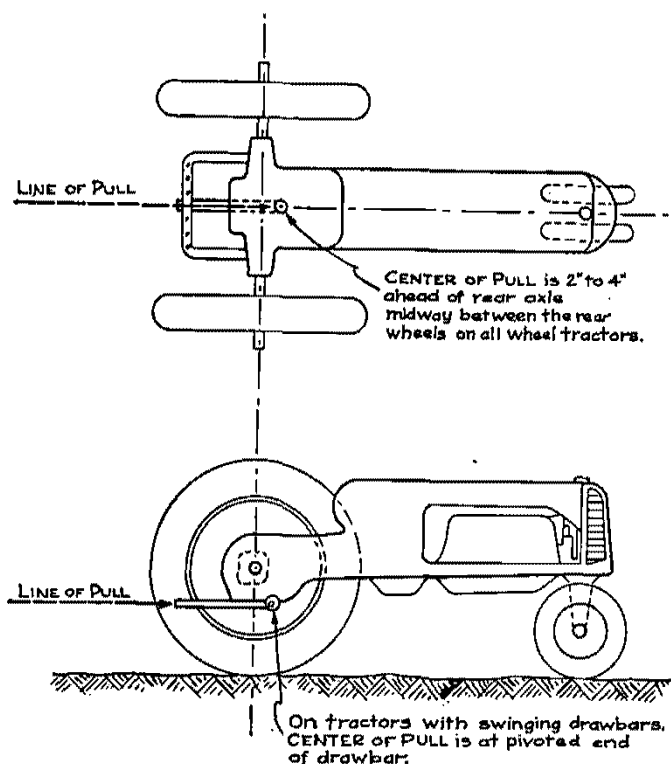

Fig. 7. Location of center of pull and line of pull on a typical cultivating type tractor.
The LINE OF PULL when rear wheels are evenly spaced (fig. 7) extends directly back from the center of pull through the center hole in the tractor drawbar, and is parallel to the furrow.
**Step 5. Locate center of pull on tractor (fig. 7).**